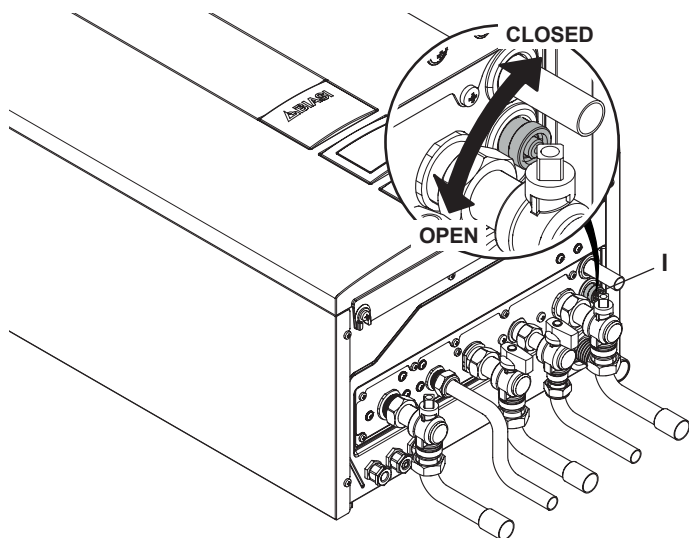
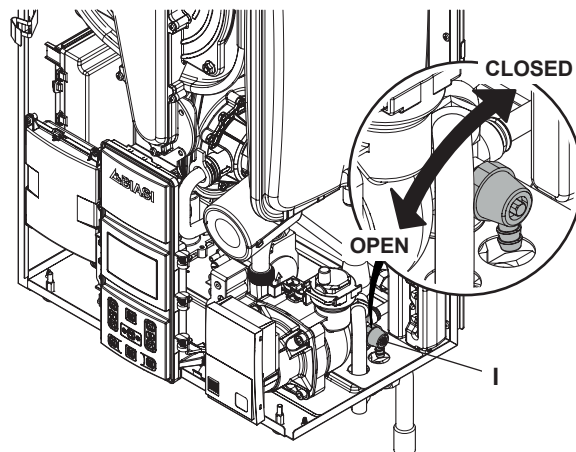

Figure 2.11
Figure 2.12
- 3 Loosen the central heating drain cock "I" (Figure 2.11 combi or Figure 2.12 only C.H.) until the boiler is completely emptied.